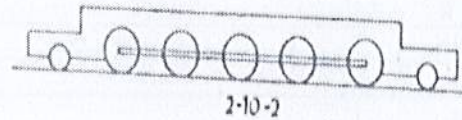

Fig: 1
1. a) What are the basic provisions for setting an ideal permanent way? (5)
- b) What kind of difficulties will you face in providing superelevation on a railway track if a branch line diverges from the main track? (7)
- c) Calculate the steepest gradient on a 4-degree curved B.G. track from the following data: (13)
- The axle load of the driving wheels (shown in figure 1) = 35.7 tonnes
- d) Compute the length of a transition curve required for an N.G. curve of six degrees. The maximum permissible speed on the curve is 135 km.p.h. This transition curve is to be used to join the ends of a 6° circular curve with the straight. Set the transition curve with the straight-taking offsets at every 63 m interval. (15)